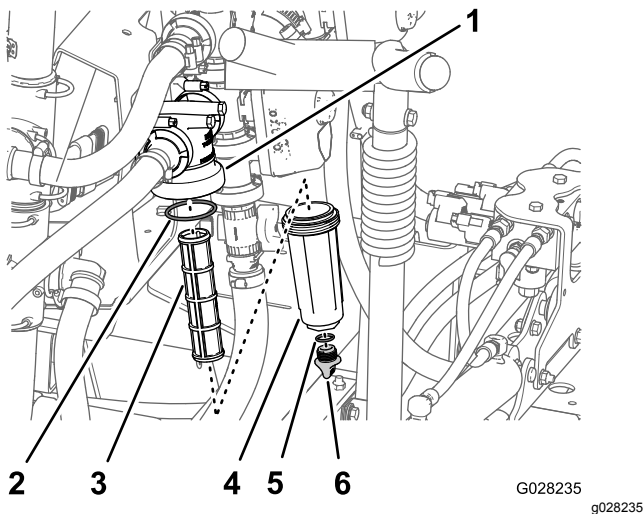

Figure 23
2. Align a drain pan under the pressure filter (Figure 23).
3. Rotate the drain cap counterclockwise and remove it from the bowl of the pressure filter (Figure 23).
4. Rotate the bowl counterclockwise and remove the filter head (Figure 23).
5. Remove the pressure filter element (Figure 23).
7. Check the gasket for the drain plug (located inside the bowl) and the gasket for bowl (located inside the filter head) for damage and wear (Figure 23).
8. Install the pressure filter element into the filter head (Figure 23).
9. Install the bowl onto the filter head, and tighten by hand (Figure 23).
10. Assemble the drain cap onto the fitting at the bottom of the bowl, and tighten the cap by hand (Figure 23).